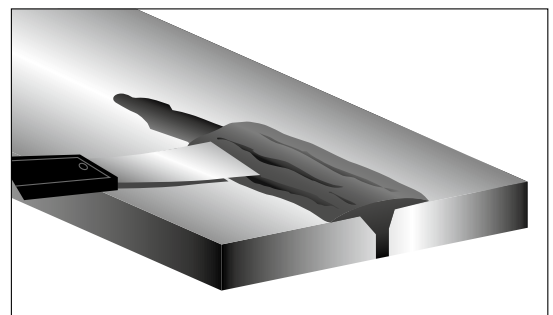

Figure 11. Fill repair area with epoxy.
- 4. APPLY EPOXY:** Apply the epoxy with a putty knife, forcing the epoxy material into the crack. Fill the "V" thoroughly and overlap approximately 1" on each side of the application area. (See Figure 11)